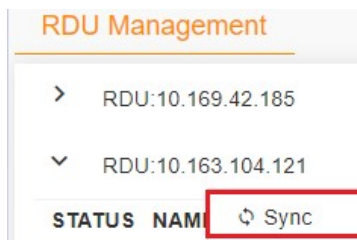

Figure 6-14 Synchronization button
1. On the **RDU Management** page, select an RDU and click . The current RDU configuration is synchronized with the underlying configuration, as shown in Figure 6-14.